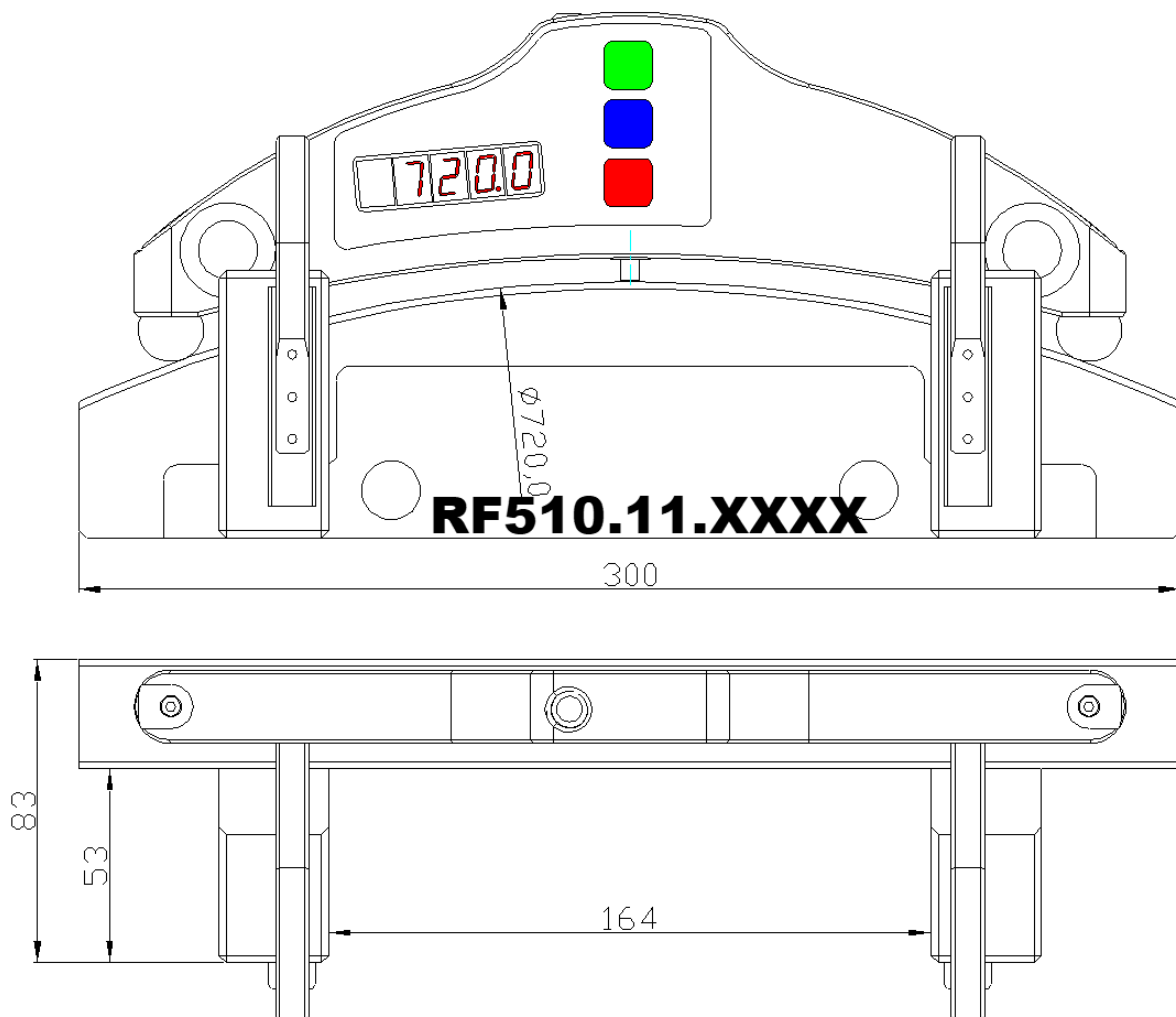

Figure 3
- Reference wheel of the known diameter (or Reference wheel block RF510.11.850, Figure 3).